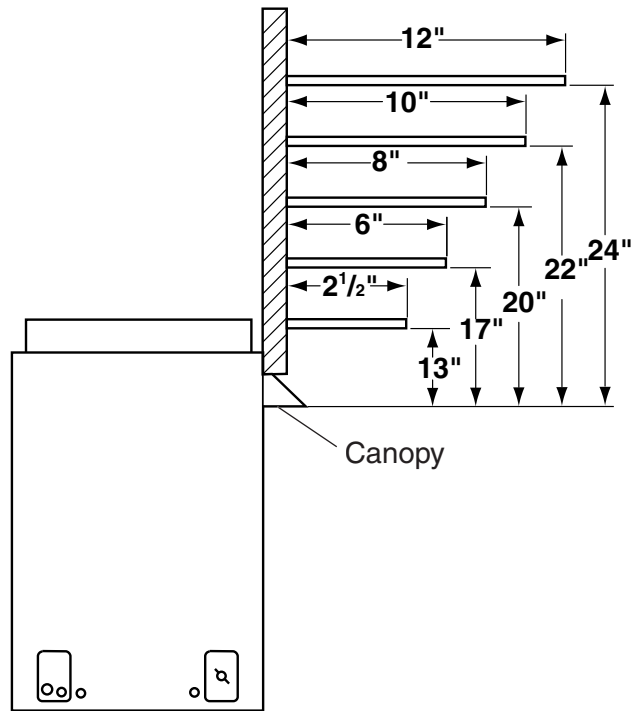

Figure 5 - Minimum Mantel Clearances
- Mantel clearances** — The canopy supplied with the unit must be installed. If a combustible mantel is installed, it must meet the clearance requirements detailed in *Figure 5*.